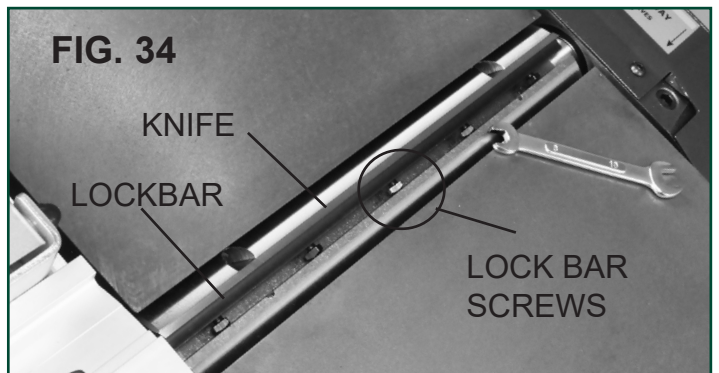

FIG. 34
2. Loosen the Lock Bar (#87) in the block with the 10mm square head Lock Bar 'Grub' Set Screws (#86). FIG. 34.